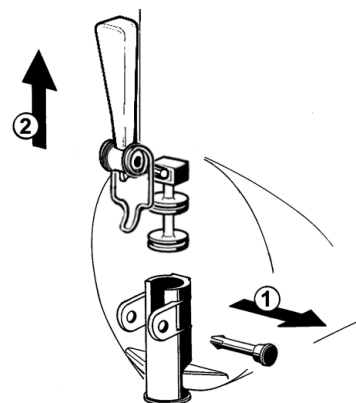

figure 9
5 Dismantle the faucet assembly (see figure 9).
- 3 Assemble the faucet by reversing the disassembly steps (see figure 9)